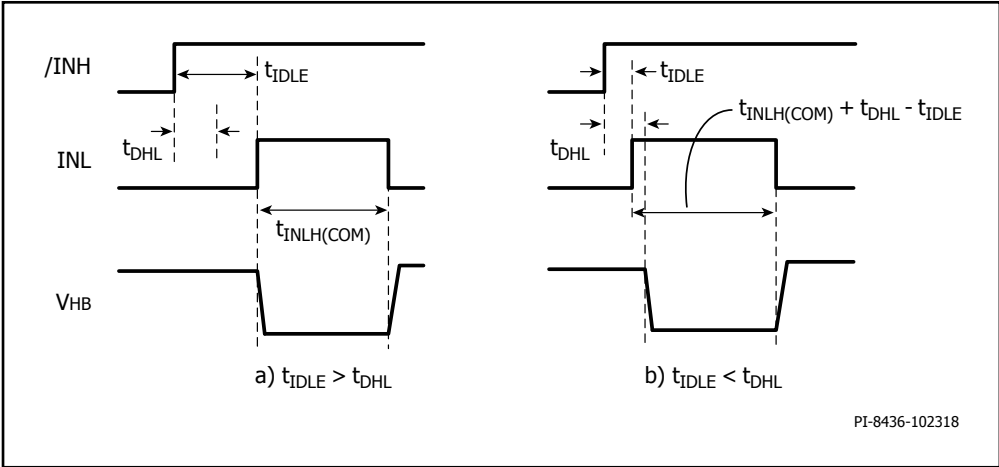

Figure 24. Minimum INL High Time Required for Device Internal High-Side Status Update a) $t_{IDLE} > t_{DHL}$ b) $t_{IDLE} < t_{DHL}$
- Assumes control input /INH was high for an idling period of t_{IDLE} > t_{DHL}. The required minimum INL high time for internal communication increases by t_{DHL} - t_{IDLE} if t_{IDLE} < t_{DHL} (refer to Figure 24).